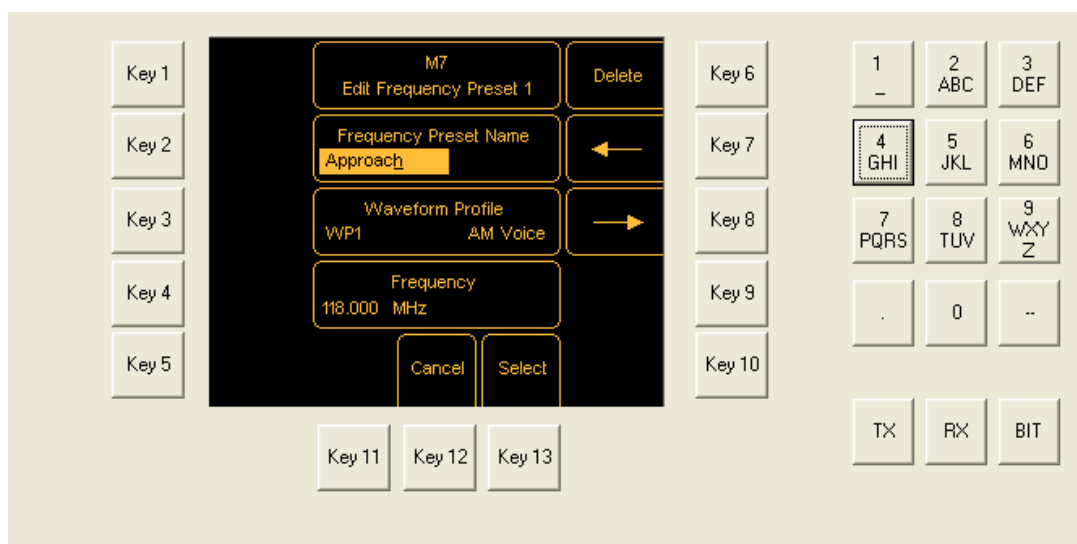

Fig 3-42 Edit Frequency Preset Name
- (3) The first parameter that can be changed is the Name. A frequency preset can have any name up to eight characters long. In this example, the default designation FP1 is being changed to 'Approach' as shown in Fig 3-42. To change the name, press *Key 2 – Change*. The new name can be entered using the alphanumeric keypad.